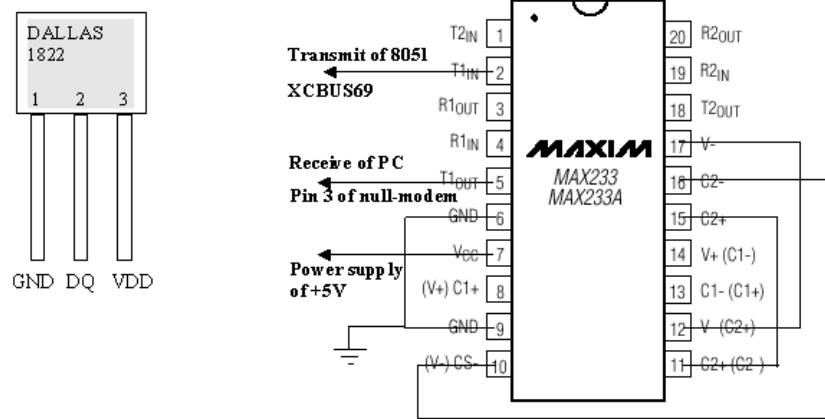

Figure 4. Pinout of DS1822 and MAX233
- C. In the hardware lab, connect pin 5 of port 1 (XCBUS 70) to the DQ line (middle pin) of the DS1822. You may have to use an experimenter’s breadboard to make this connection. Ground the ground pin of the DS1822. Do not supply power to the power pin. The pinout of the DS1822 is shown in Figure 4.
D. To display the temperature on the computer screen, you will need to hook up the MAX233 part and the serial communication lines. The pinout of MAX233 along with necessary connections is shown in Figure 4.